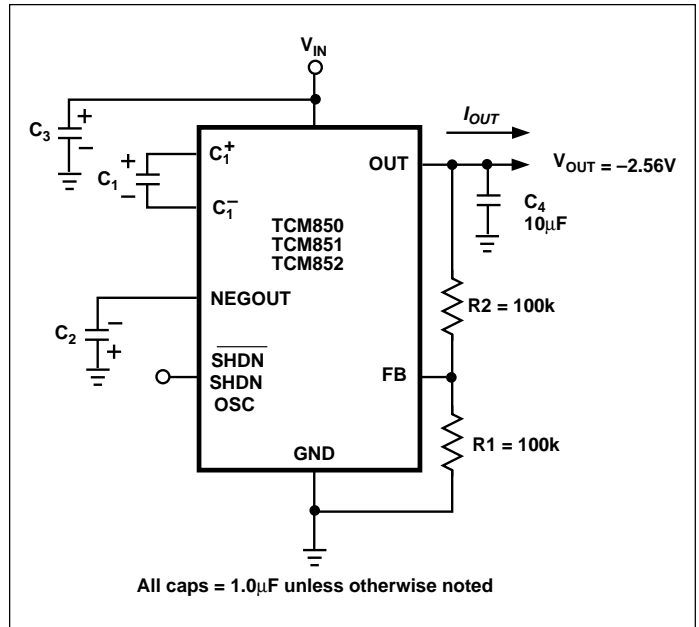
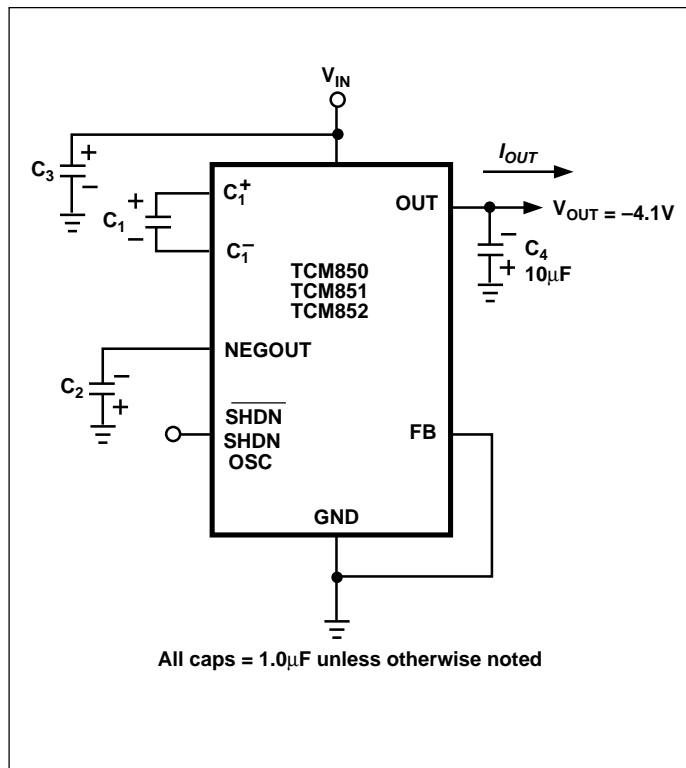

Figure 4. TCM850/851/852 Adjustable Application
Figure 3. TCM850/851/852 Standard Application
3. $I_{OUT} = 0$ mA or 5mA. Reference Figures 3 and 5.
The TCM850/1/2 operate in the fixed output voltage mode ($V_{OUT} = -4.1V$) when the FB input is grounded (Figure 3). The output voltage can be adjusted by connecting FB to the midpoint of a resistive voltage divider from OUT to GND (Figure 4). Care must be taken to allow a minimum of 1.0V across the linear regulator for proper regulation. The output voltage is calculated using the formula below (R_2 should be chosen to be between 100kΩ and 400kΩ):